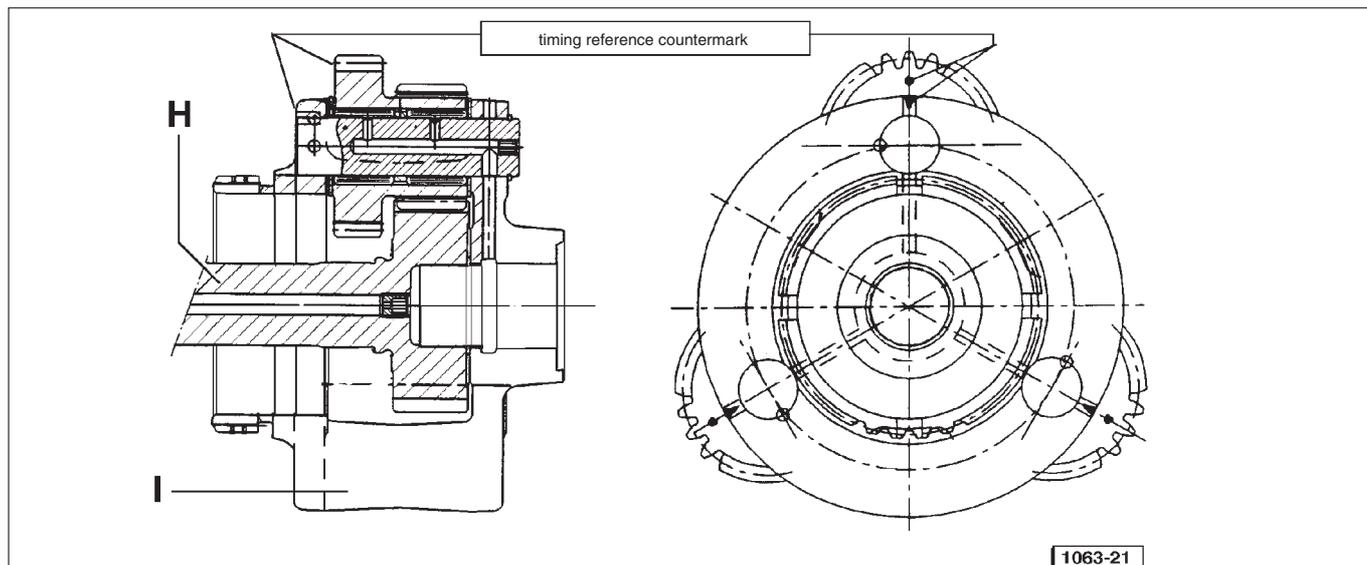

Fig. 8 - Timing the epicyclic speed reducer of the Powershift unit.
- Working at the bench, preassemble the LOW shaft **H** p/n 007.6139.3/40 with the planet carrier flange **I** p/n 008.5677.0 (Fig. 8).
- When fitted to the shaft, the planet wheels must be positioned so that the punched countermarks coincide with the reference marks on the planet carrier flange (Fig. 8).